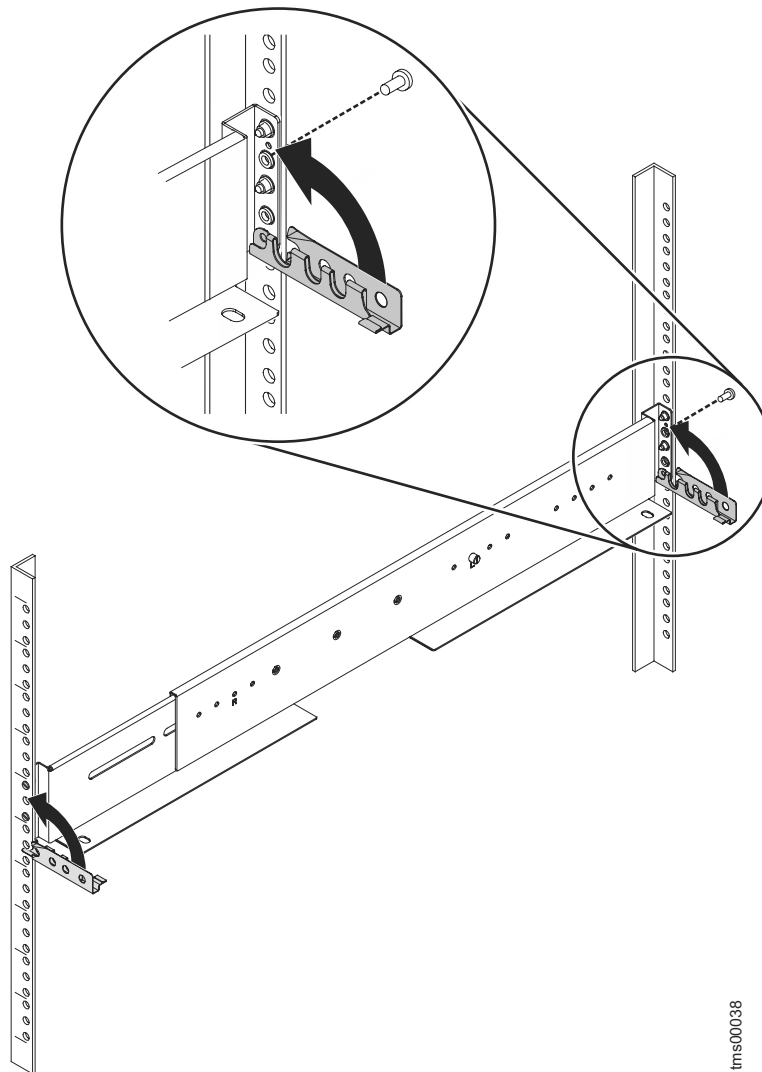

Figure 23. Closing hinge brackets and installing rear screw
8. On the rear of the rail, press the two bracket pins into the holes in the rack flanges and close the rear hinge bracket to secure the rail to the rack cabinet flange (see Figure 23 on page 55).
9. On the front of the rail, press the two bracket pins into the holes in the rack flanges and close the front hinge bracket to secure the rail to the rack cabinet flange (see Figure 23).
10. Secure the rear of the rail to the rear rack flange by installing an M5 screw between the upper and lower mounting pins (see Figure 23).